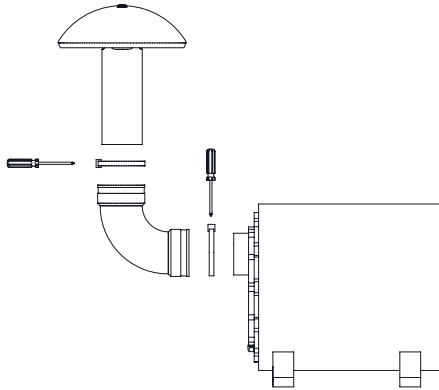

Figure 14
1. Attach the elbow and port with hood to the subwoofer enclosure as shown in Figure 14.